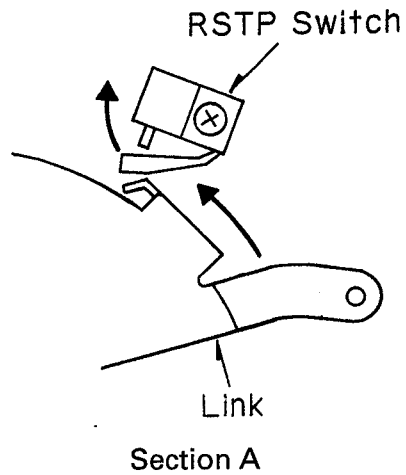

Fig.36
2. The phototransistor detects the top step immediately after the RSTP switch is turned to ON. When the steering moves further, the gear A turns half circle and the phototransistor detects the next position of the hole. Thus, the system detects the position of magazine ejection (Fig. 36).